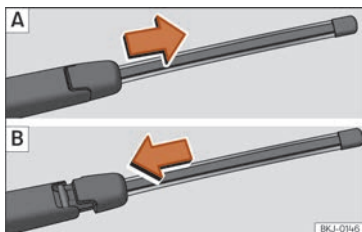

Fig. 84 Removing and fitting the rear window wiper blade.
- Slide the blade adapter in the direction of the arrow and remove the blade » **Fig. 84 A**.
- Place the blade as shown in » **Fig. 84 B** and slide the adapter along until it engages.